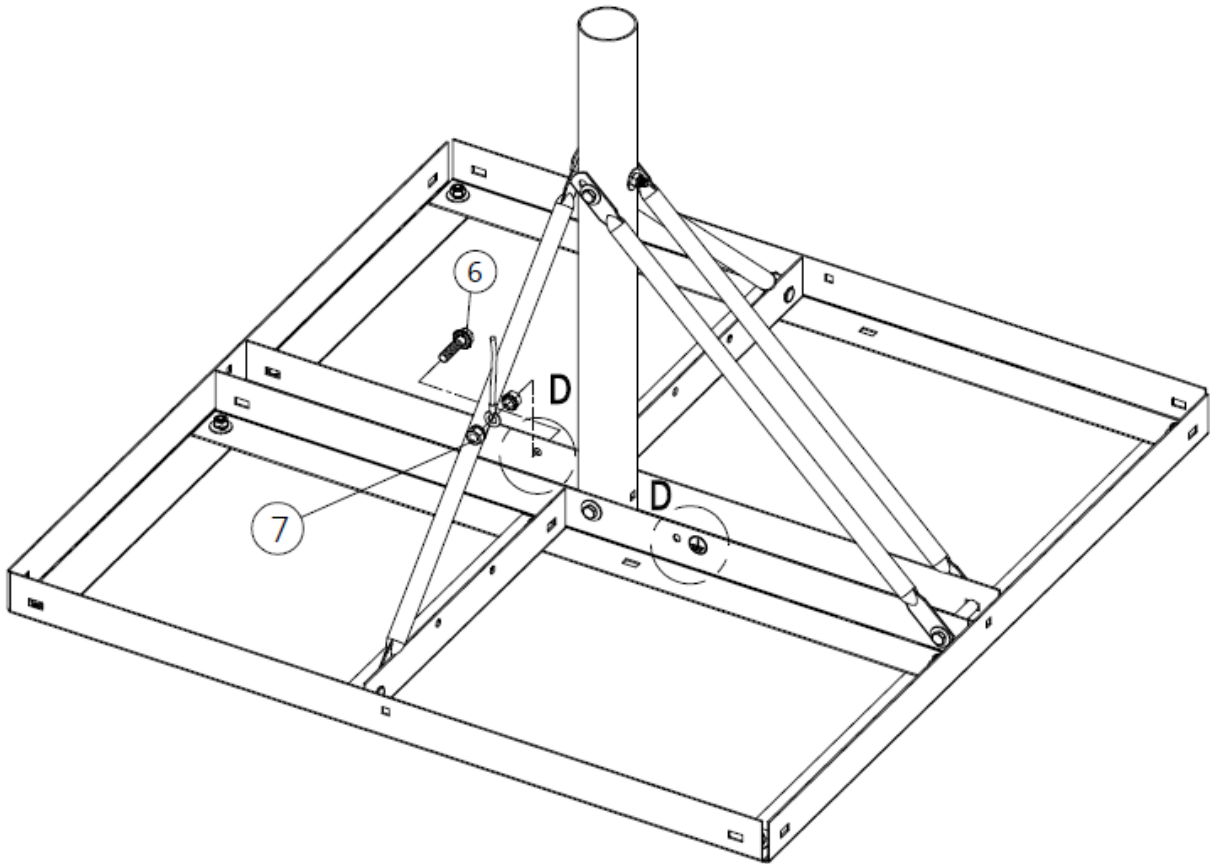

Figure 34: Installing the grounding cable
7. Assemble the grounding cable as shown in Figure 34. Secure the cable in place using a hex flange screw (6) and two keps k-lock nuts (7).